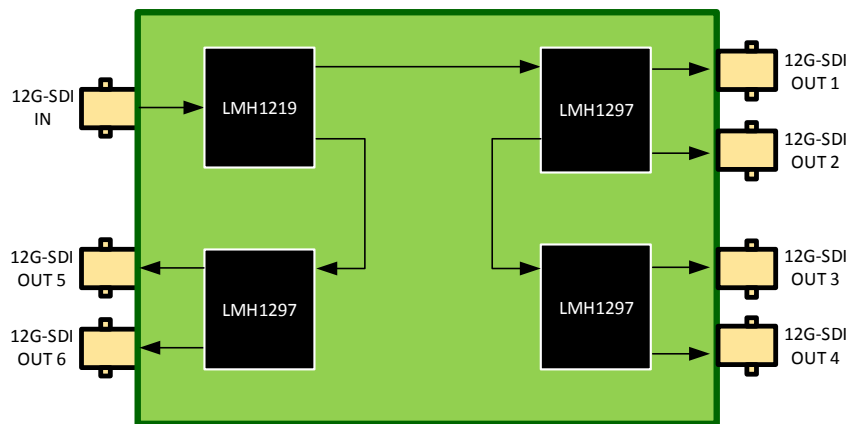

Figure 19. 1x6 SDI DA Implementation Block Diagram
Rather than adding a large crosspoint to enable SDI video distribution, the LMH1297 OUT0 acts as a daisy-chain output that feeds into the next cable driver in the chain. In Figure 19, a 1x6 SDI DA can be realized with a single cable EQ and three LMH1297 bidirectional I/Os operating in CD Mode.
**NOTE:** Designers may create a 1x12 DA using the design topology in Figure 19 by routing both positive and negative polarities from each LMH1297 cable driver output to BNC connectors.